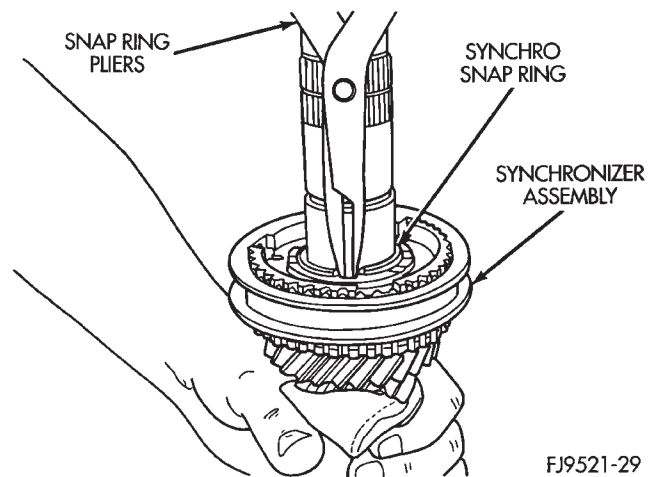

Fig. 96 3-4 Synchronizer Hub Snap Ring
(9) Remove blocking ring. Remove 3-4 synchronizer hub retaining snap ring (Fig. 96).